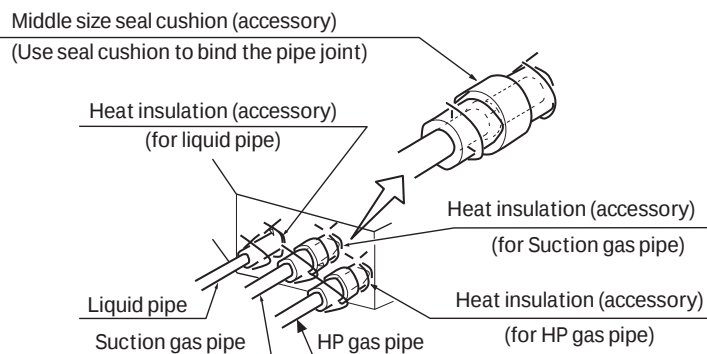

Fig. 8
- Check the connecting lines for gas leakage and then install the pipe insulation, as shown in the Fig.8